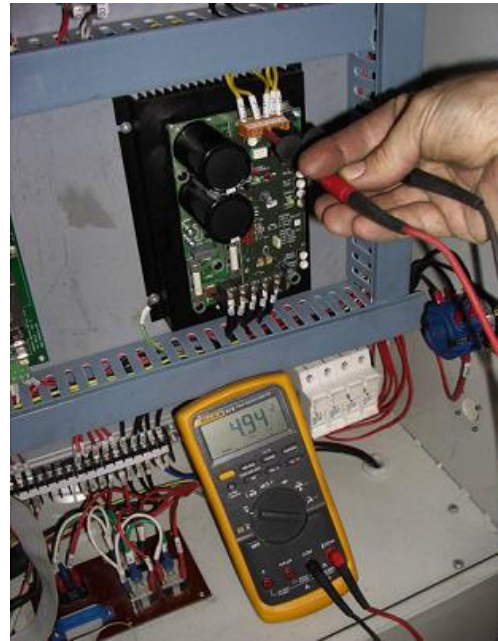

Figure 9.9 -Test Point Location
2. Turn the operator console **Spindle Lockout** key-switch to the OFF (0) position. This will prevent the spindle from starting. It also isolates the spindle motor driver from high voltage.
4. Using a digital voltmeter set to measure DC voltage; measure the voltage from S1 to S2 on the spindle motor driver (figures 9.9 & 9.10). Connection point S1 is the same as wire number J1-2. Connection point S2 is the same as wire number J1-1. The black probe goes on S1 and the red probe goes on S2. Press the “Spindle Start” button on your machine. Record the voltage; it should be near 5V. This is your Volts on MANUAL measurement.